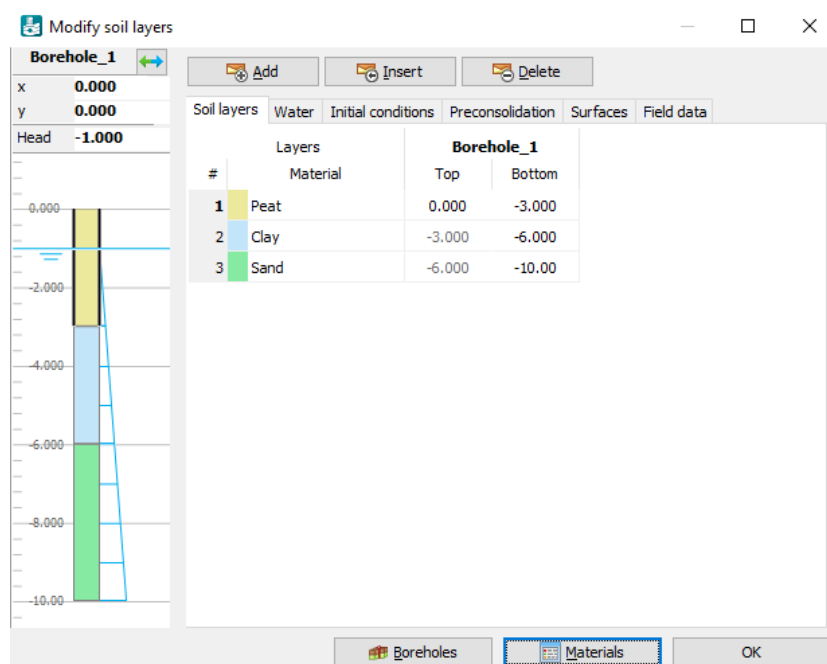

Figure 95: Soil layer distribution
2. Define three soil layers as shown in Figure 95 (on page 118).
2. Create soil material data sets according to Table 16 (on page 119) and assign them to the corresponding layers in the borehole (Figure 95 (on page 118)).